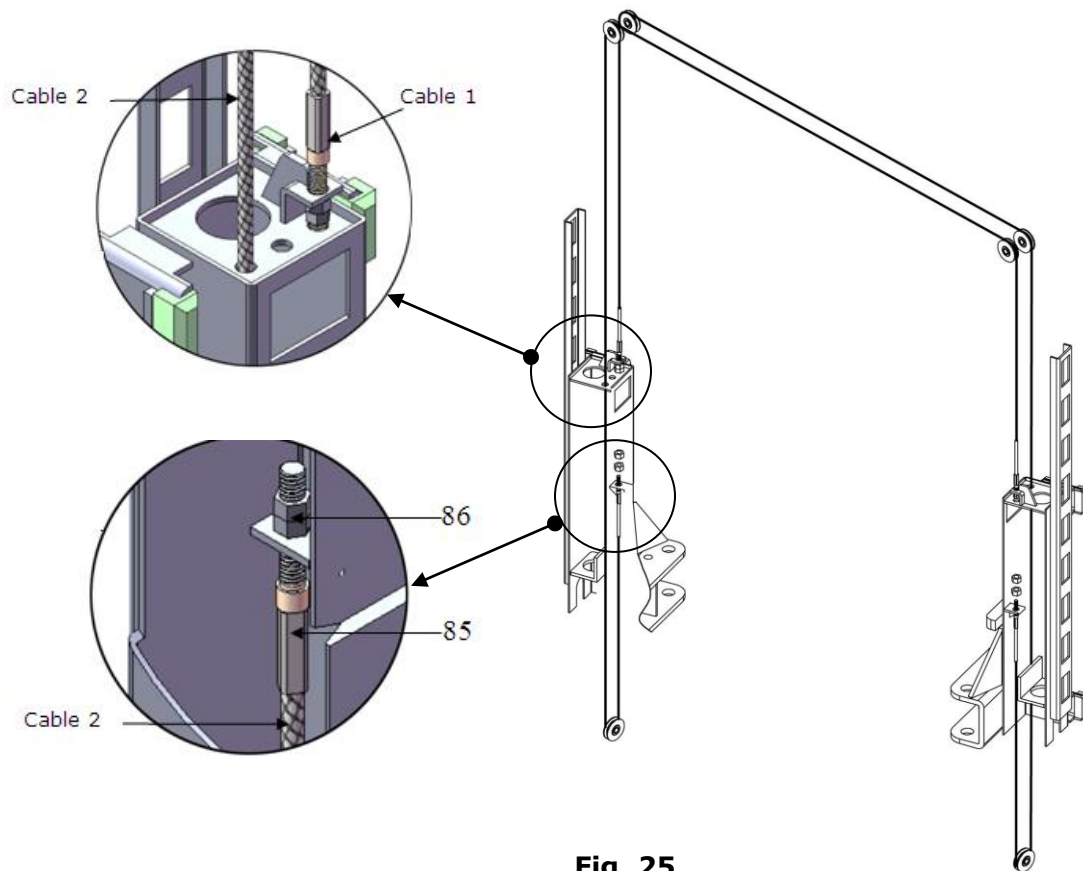

Fig. 25
2. Connecting Cable for high setting (**See Fig. 25**).